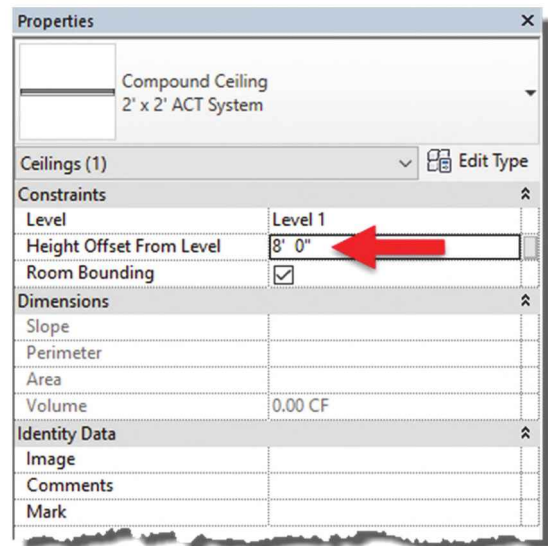

FIGURE 6-4.4 Ceiling: Properties
6. Set the *Height Offset From Level* setting to **8'-0"** (Figure 6-4.4).